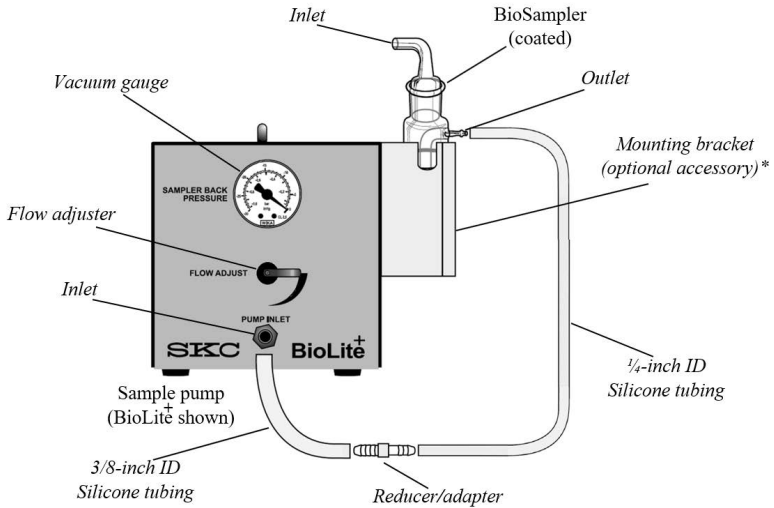

Figure 4. Sampling Train with Coated Collection Vessel
- b. If using a coated collection vessel (Figure 4), connect the BioSampler outlet (nozzle section) to the sample pump inlet as shown in Figure 4.